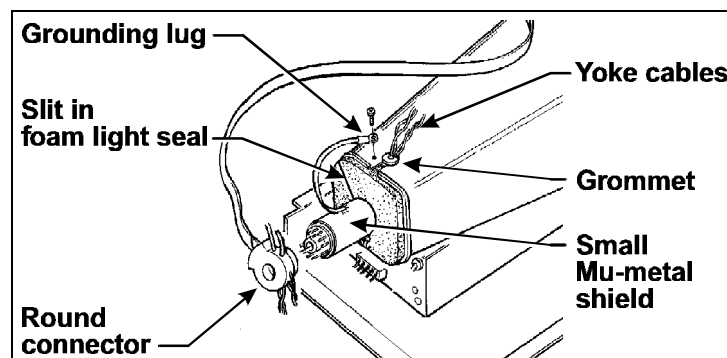

Figure 5-22. Installing the light seal and connecting CRT cables
7. Connect the round connector to the end of the CRT (Figure 5-22).
9. Install the foam light seal in the rear of the Mu-metal shield (Figure 5-22). Be sure the opening slit is in the upper left.
10. Attach the ground cable lug to the large Mu-metal shield with a sheet metal screw (Figure 5-22).